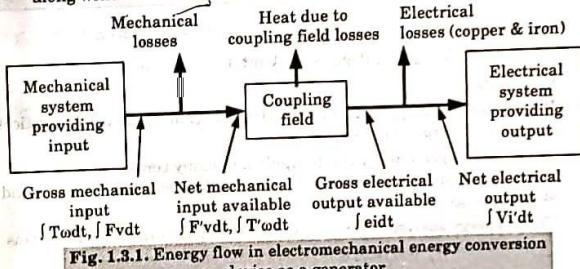

Fig. 1.3.1. Energy flow in electromechanical energy conversion device as a generator.
4. The flow of energy in electromechanical conversion in either direction along with irrecoverable energy losses is shown in Fig. 1.3.1.